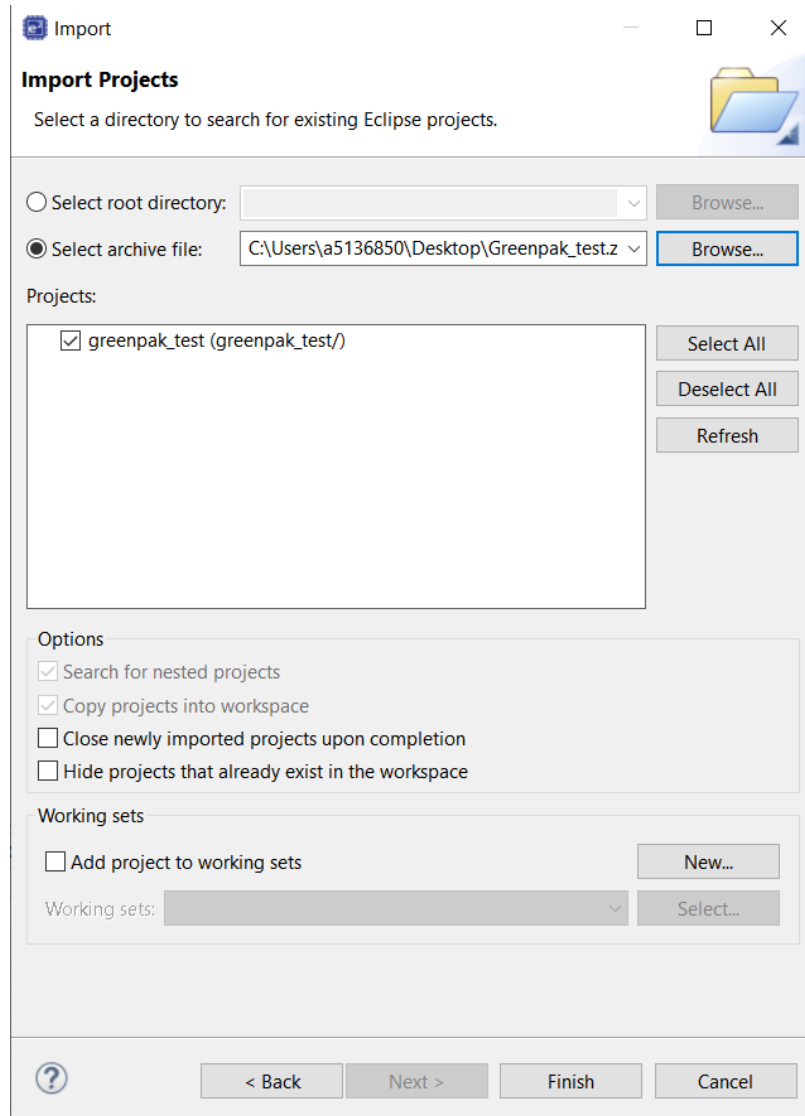

Figure 4. Import Projects Window
| Figure 4. Import Projects Window..... | 4 |
2. Select **File** → **Import** → **General** → **Existing project into workspace**. Click on the radio button *Select archive file*. Click on *Browse* to locate the **.zip** file (see Figure 4).